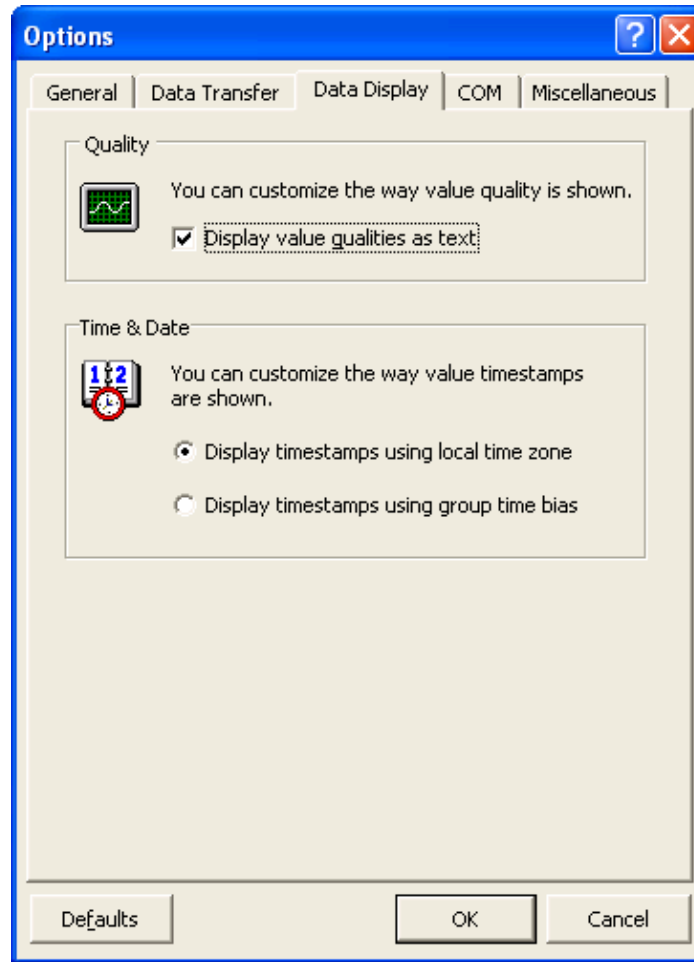

Figure 31 - Data Display Options Tab
3. From the **Options** window, select the **Data Display** tab (Figure 31).